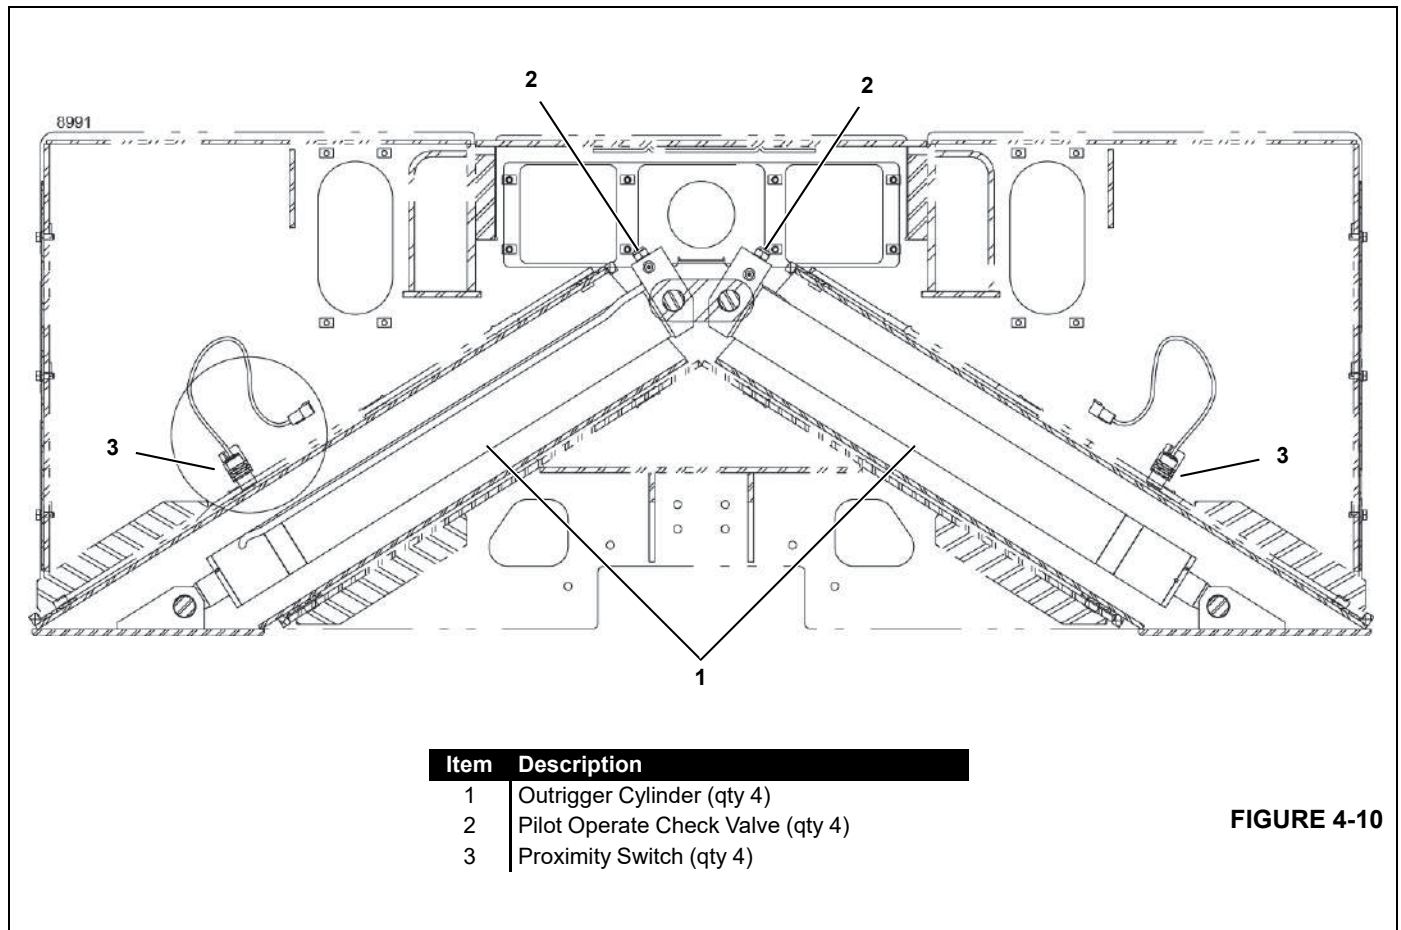

FIGURE 4-10
Also see Figure 4-10 for this description.
The OMS aids the operator by turning on a green indicator light in the gauge cluster on the instrument panel when all of the outriggers are fully extended. The light is controlled by the proximity switches (3, Figure 4-10) at the outrigger cylinders (1).